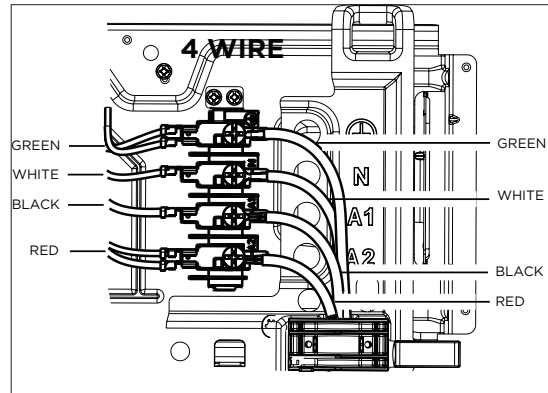

Figure 7: 4 Wire Power Supply Cord Connection
3. Attach conduit cable to terminal block in accordance to the corresponding color order (See figure 7) by removing the intended screw, slipping the wire onto screw and screwing it back into position.
5. Follow the color coding shown in the figure 7 to make all 4 connections.